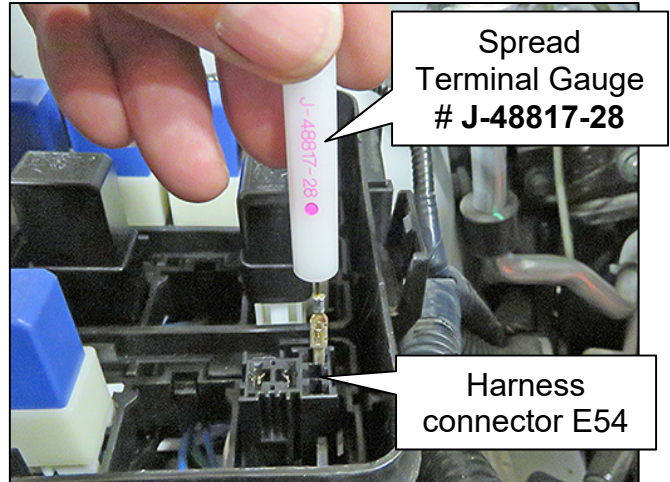

Figure 3
- a. Align the tip of the Spread Terminal Gauge (Figure 3) so that it is offset to one side (see Figure 4 and Figure 5).